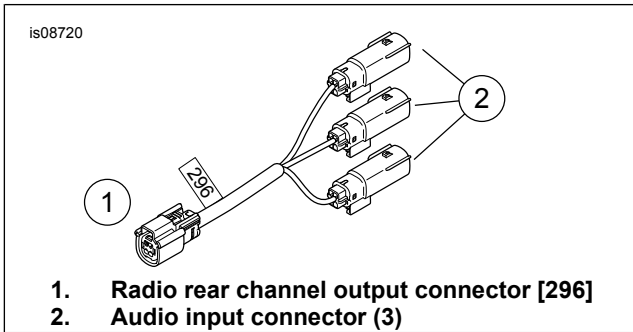

Figure 12. Audio Input and Output Wire Harness
- **2017 FLHXSE:** connect [296B] of amplifier to vehicle [326A/B] via 69201092 (Figure 12).
7. **Models with two or more Stage II amplifiers in rear:** Install audio input "Y" (69201092) (Figure 12) between 4-way socket side [296B] of amplifier harness and 4-way pin side connector as defined by models above.